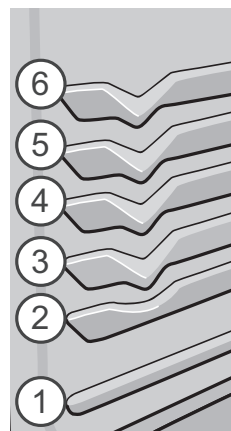

Fig. 1
6. Place the broiler pan and insert on the oven rack (if equipped-See Figs. 1 & 2).